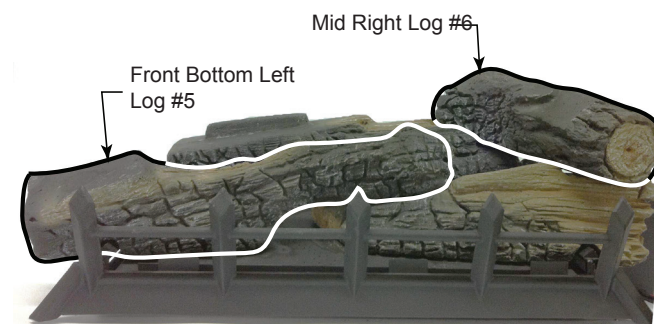

Figure 54
5. Place front bottom left log (#5) on left pin located on burner and left grate bar. The right side of the log should rest on log #4. Figure 54
6. Place mid right log (#6) on bottom rear log (#1) and front bottom right log (#4) by placing notch on bottom of log on locating block on log #1. Place front of log in notch of log #4. Figure 54